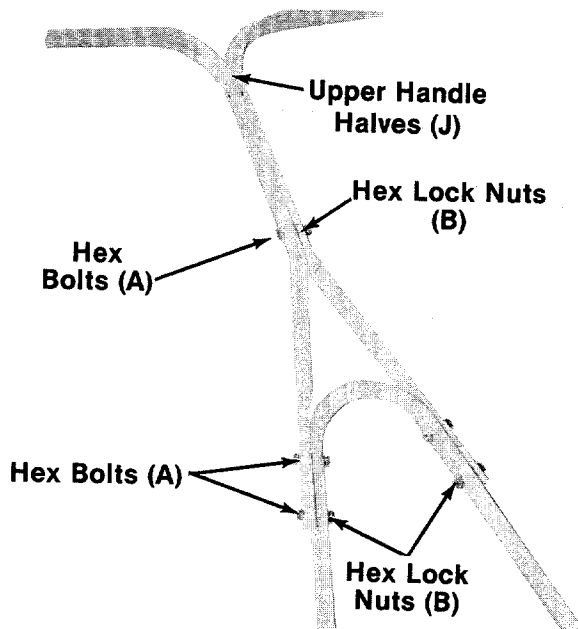

FIGURE 5.
5. Assemble the upper handle halves (J) to lower handle using five hex bolts (A) and lock nuts (B). Only tighten finger tight. See figure 5.
- 6A. **Model 011 Only**—Secure upper handle halves at the top hole using the sixth hex bolt (A).